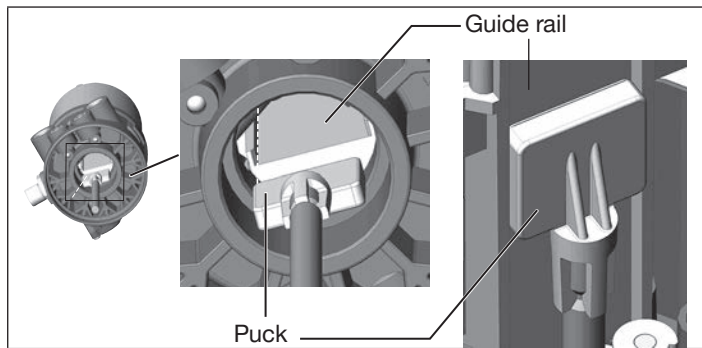

Fig. 8: Aligning the puck
- Push the control head onto the actuator. The puck must be aligned in such a way that it is inserted into the guide rail of the control head (see "Fig. 8").